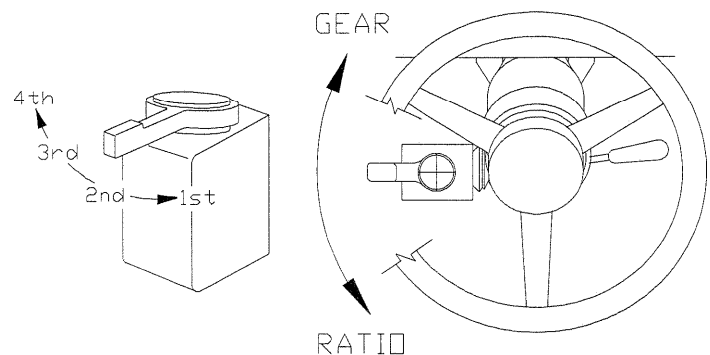

Fig. 3-12 Electric Shift - Control Handle
See Item 35, Fig. 3-12
35. Gear Ratio Selector Handle See Fig. 3-12